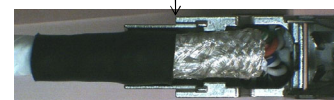
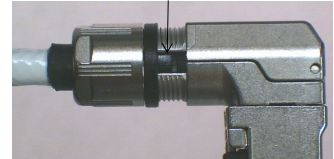

Figure 15
Figure 16
- 13) Check for stray braids, remove as needed. Close the rear body halves together (Fig. 15), install the collet & collet nut onto the rear body, with collet guide located in the slot between rear body shell halves (Fig. 15). Tighten the collet nut until snug (Fig. 16).